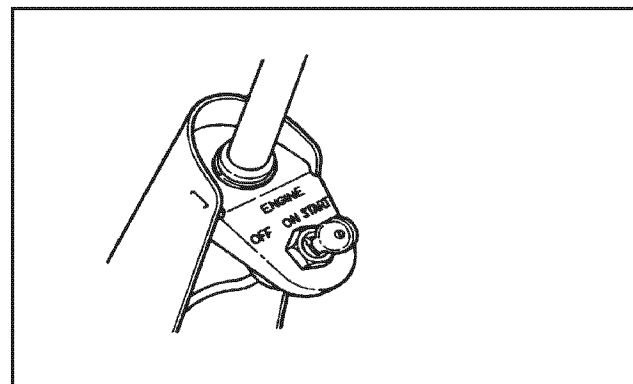

FIGURE 5
**IMPORTANT:** When the ignition key is turned to START, the engine will turn over but will not start unless the clutch/brake pedal (**B**, Figure 5) is pressed all the way down and the blade lever is OFF. The operator must be in the seat.
3. Insert the key into the ignition switch and turn it to START to crank the engine (Figure 5).